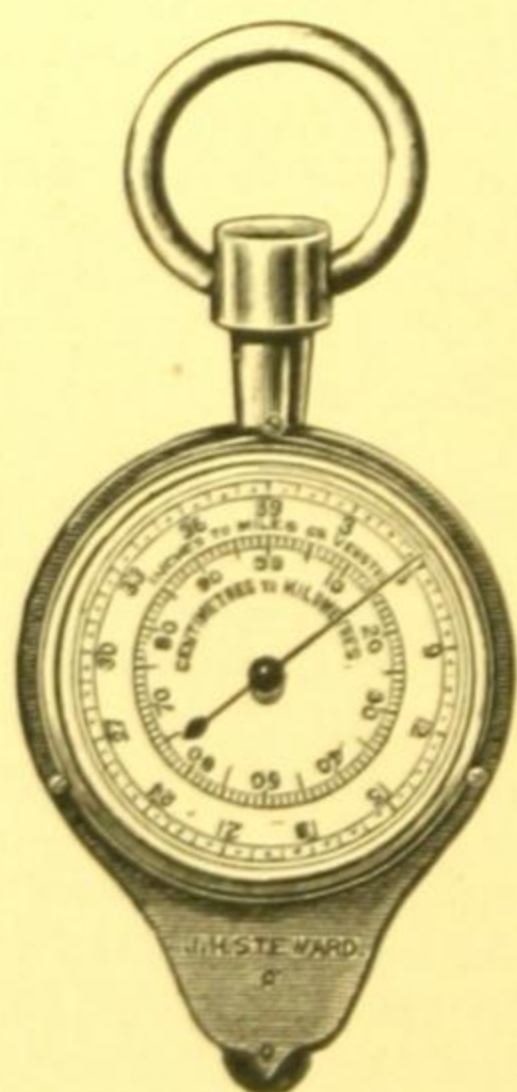

Fig. 59.
- SM 274.—**The Universal Map Measurer**. The small wheel under the pointer is run over the roads on a map, and the hand indicates the distance covered with great accuracy in miles, kilometres and versts. The dial is  $1\frac{1}{4}$  inch in diameter and is graduated to every  $\frac{1}{2}$  inch up to 39 inches and to centimetres.....Fig. 59   5/6